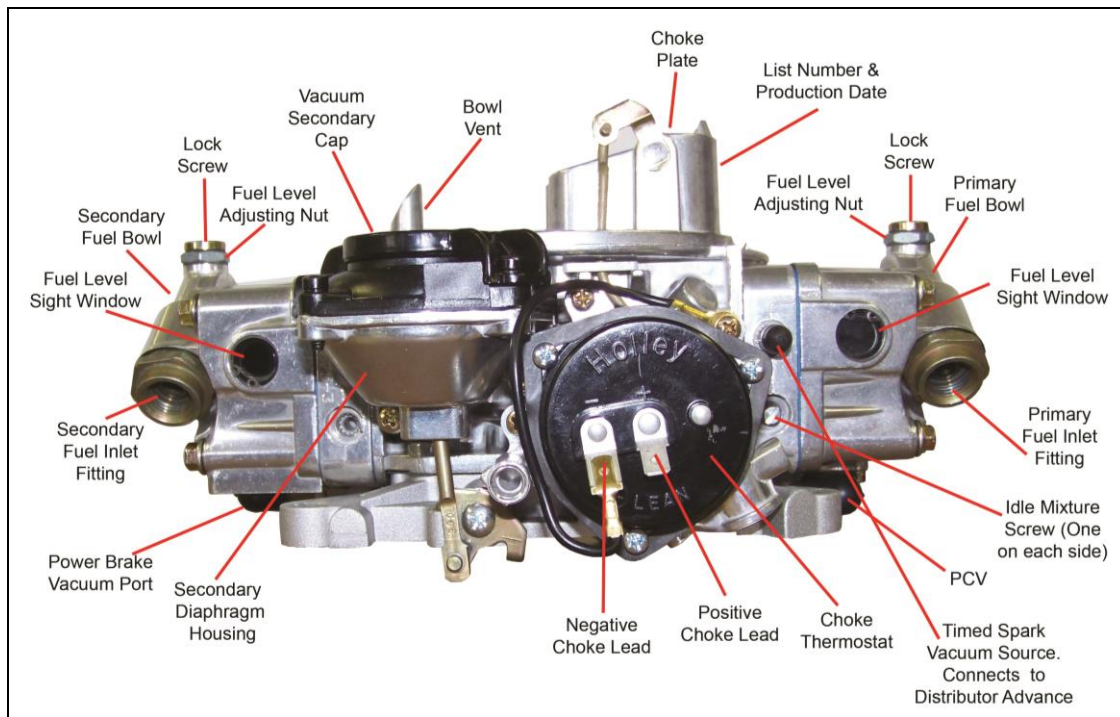

Figure 6
6. Reconnect the appropriate vacuum hoses to the carburetor, noting the correct port from **Figure 6** and **8**.
8. Connect the power brake hose to the port as shown in **Figures 6 or 8**.